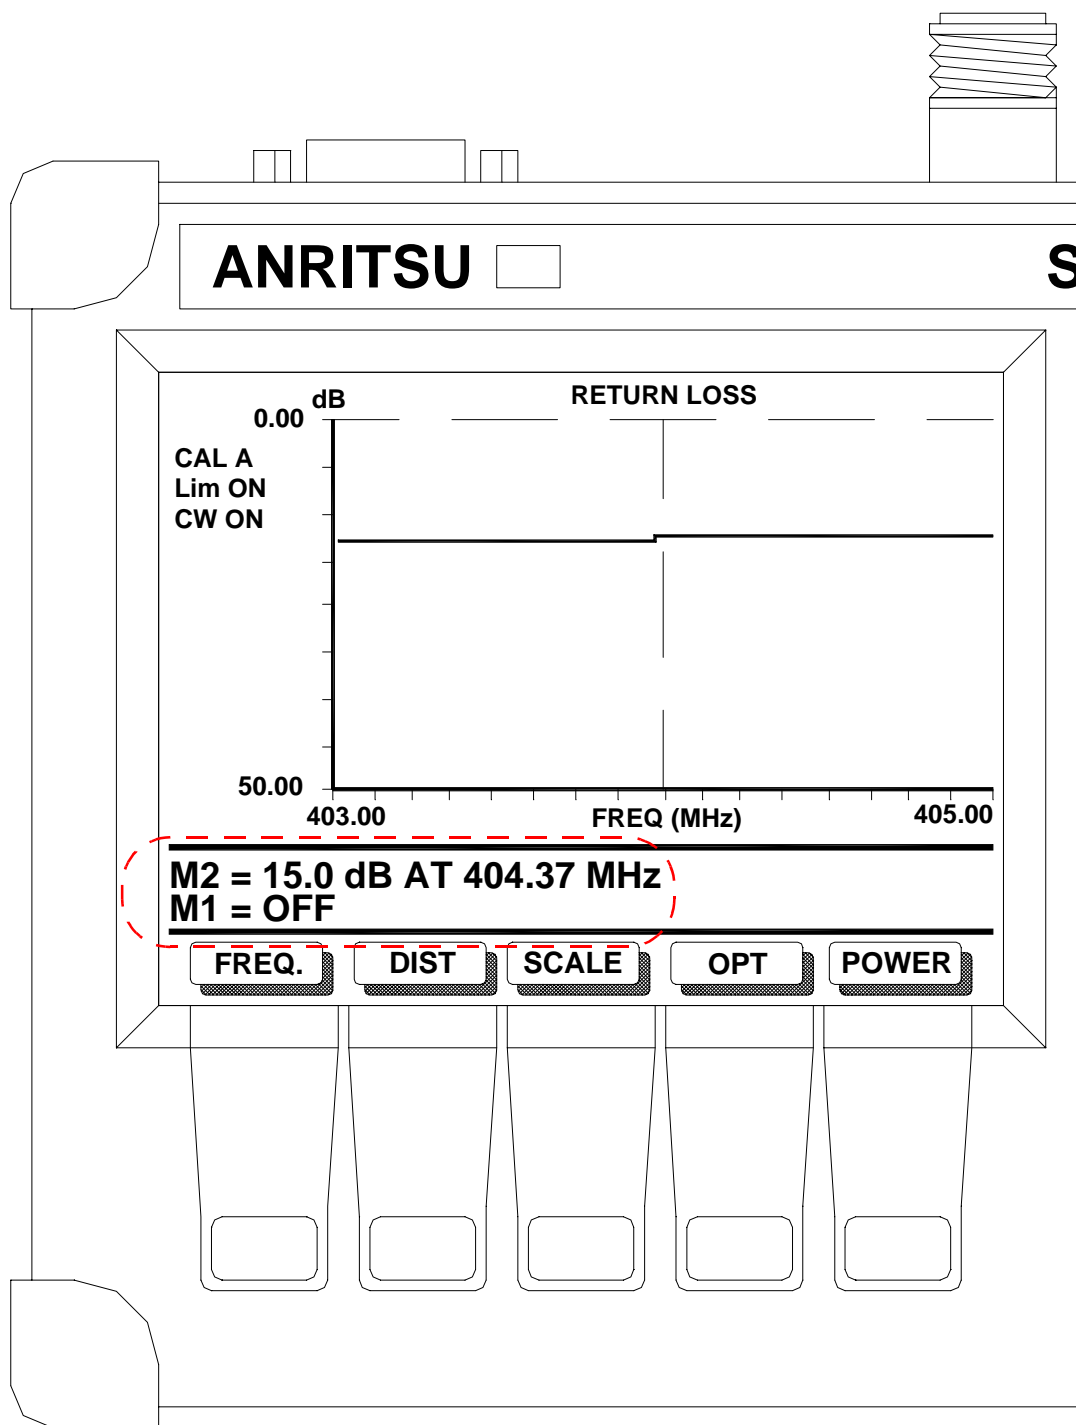

Figure 7-13 Anritsu Site Master Return Loss Display
5. Connect the Anritsu cable to the end of first antenna feed cable, wait for the Anritsu display cursor to sweep and record cable ID and meter reading as shown in Figure 7-13. Repeat this procedure for each of the ten antenna feed cables.